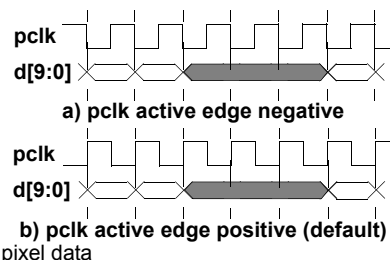

Figure 32. pclk in Free Running Mode
- In free running mode, (the *PixClkMode* bit of *DVBUSCONFIG1* register is set to a logic 0), the pixel clock output pin, **pclk**, is always running with a fixed period. Pixel data appearing on the digital video bus **d[9:0]** are synchronized to a specified active edge of the clock as shown in Figure 32.